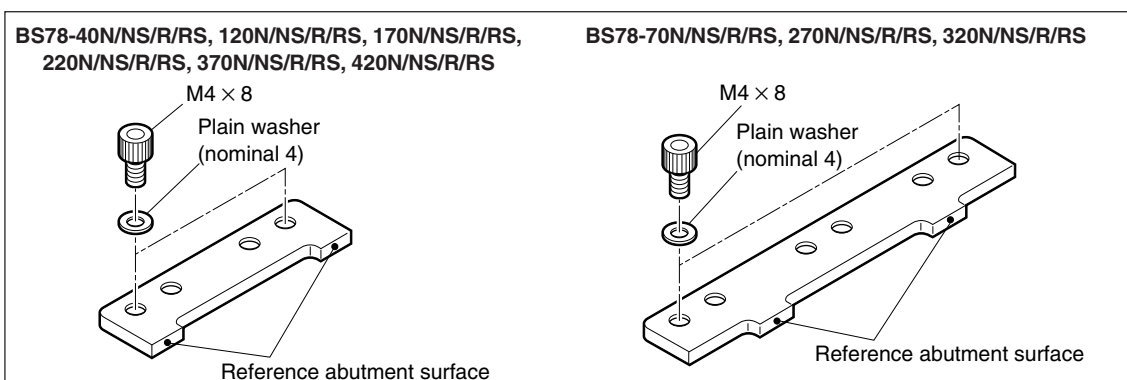

Fig. 3-9
- 4** Insert the scale between the scale clamp and the mounting surface while pressing the datum surface of the scale (see Fig. 3-9) lightly against the reference abutment surface (Note). Gradually and alternately tighten screws A and B of the scale clamp indicated in the figure. (Use only the left-side scale clamp for clamps with two screws, and use the center scale clamp for clamps with three screws.) (Final fastening torque: 1.4 N · m)